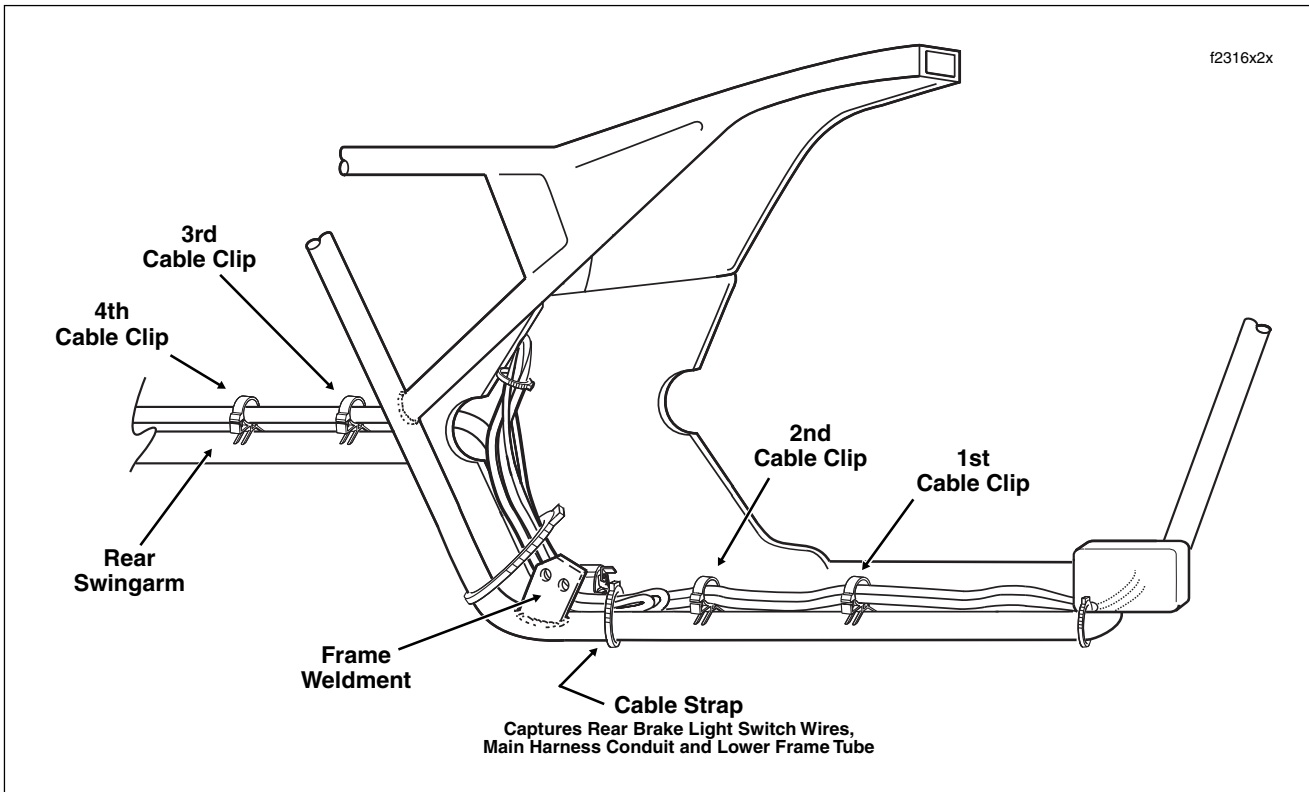

Figure 2-49. Rear Brake Line Routing (Right Side View)
3. Capture rear brake line hose in two cable clips on rear swingarm T-studs. Snap cable clips closed. See Figure 2-49.